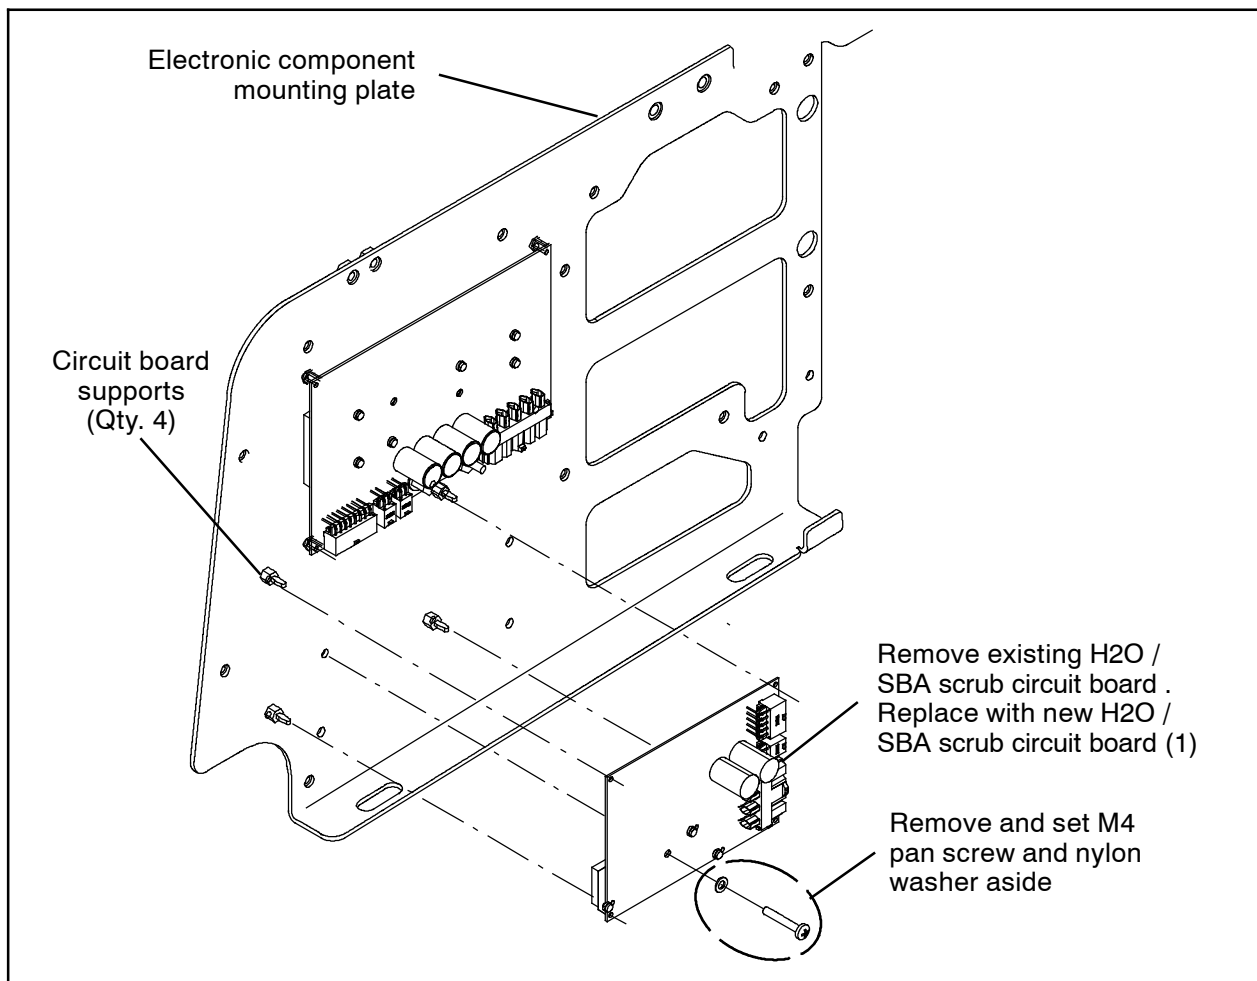

FIG. 3
- Remove the M4 pan screw and nylon washer securing the H2O / SBA scrub circuit board to the electronic component mounting plate. Set the M4 pan screw and nylon washer aside. (Fig. 3)
- Remove the H2O / SBA scrub circuit board from the four circuit board supports on the electronic component mounting plate. Discard the H2O / SBA scrub circuit board. (Fig. 3)
- Place the new H2O / SBA scrub circuit board (1) onto the circuit board supports and use the M4 pan screw and nylon washer to secure the H2O / SBA scrub circuit board to the electronic component mounting plate. (Fig. 3).
- Reconnect the main wire harness to the H2O / SBA scrub circuit board (1). (Fig. 3)